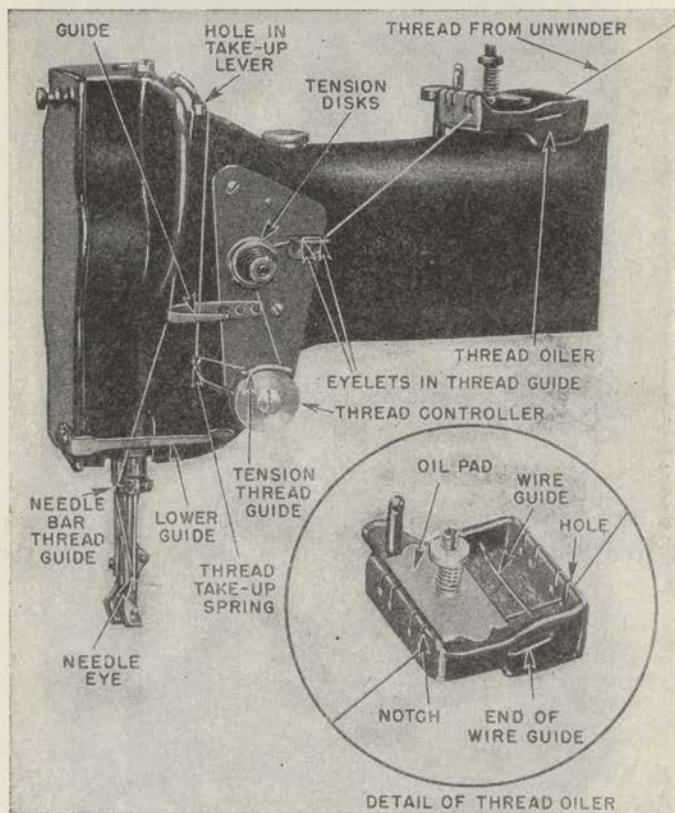

FIGURE 96.—Threading needle.
i. To thread needle (fig. 96).—To thread the needle, pass the thread from the unwinder, through one of the holes in the thread
o. To regulate tensions.—(1) The tension on the needle thread is regulated by the thumb nut (fig. 96) at the front of the tension disk on the front of the machine. To increase the tension, turn this thumb nut to the right; to decrease it, turn the nut to the left.